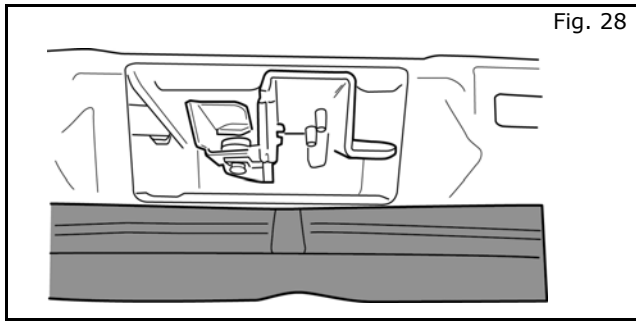

Fig. 28
26) Remove new seal from bag. Locate the white plastic inserts located on the seal. Do not remove them from seal. Additionally locate the seam between the inserts and line it up with the center trunk latch. (Fig. 28)